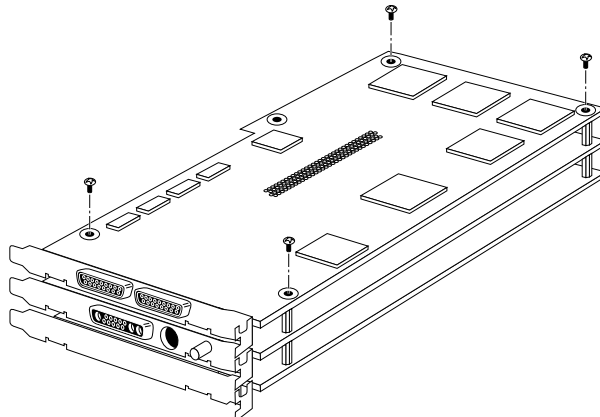

Figure 3-5 Aligning the video board over the XZ graphics board
5. Align the Galileo Video or Indigo² Video board over the graphics board set, as shown in Figure 3-5.